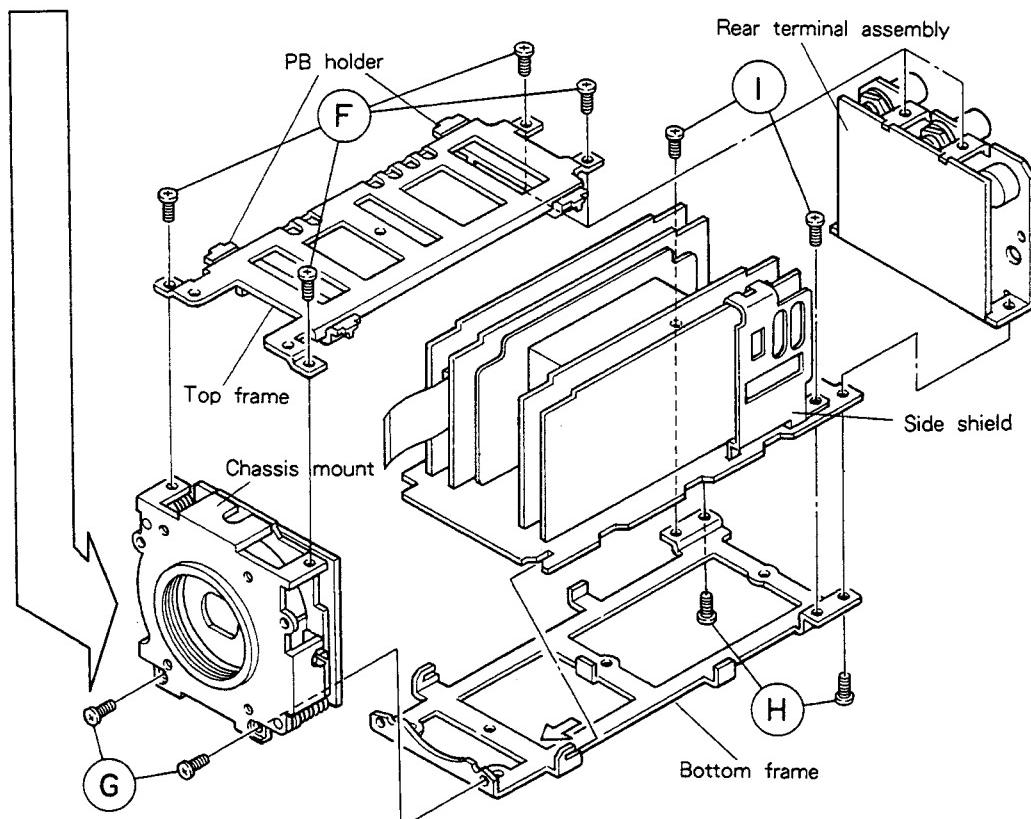

Figure 2 Removing the chassis parts
- (1) Remove the four screws **F** in Figure 2.
- (2) Then the two PB holders will be removed at the same time.
- (2) Remove the two screws **G** in Figure 2.
- (1) Remove the two screws **H** in Figure 2.
- (1) Remove the two screws **I** in Figure 2.
- (2) Move the frame in the direction of the arrow and remove it.
- (3) The side shield will then be removed at the same time.